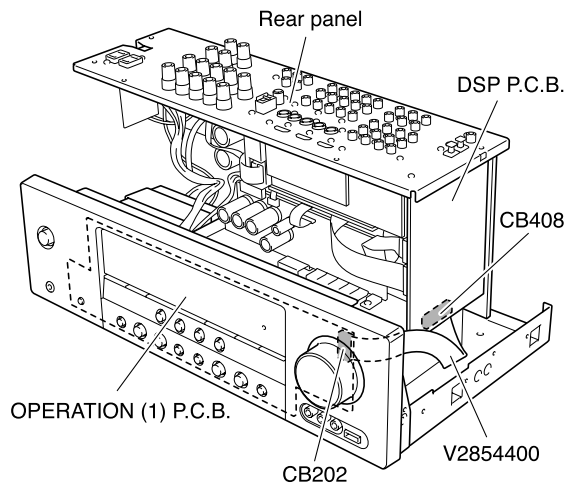

Fig. 6
- Be sure to use the extension cable for servicing for the following section. (Fig. 6)